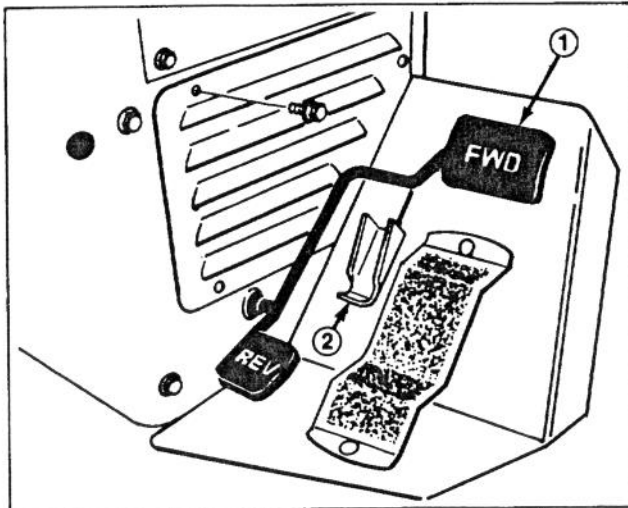

Figure 22
**Traction Pedal (Fig. 22 & 23)** — Traction pedal has two functions: one, to make the machine move forward, the other, to make it move rearward. Using the heel and toe of the right foot, depress top of pedal to move forward and bottom of pedal to move rearward. **For operator comfort, do not rest heel of foot on reverse when operating forward.**
**Traction Pedal Stop (Fig. 22)** — Used in conjunction with traction pedal to maintain a constant mowing speed.